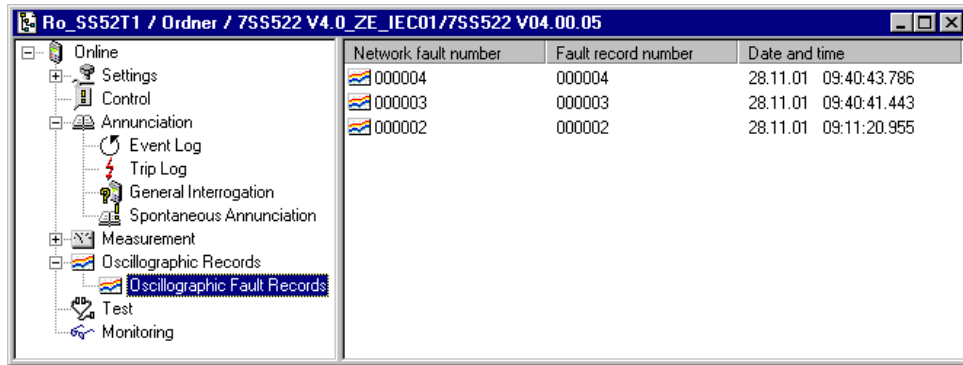

Figure 6-11 Reading out fault data in DIGSI – Example
- Click **Oscillographic Records** in the navigation window. The subdirectory of the Oscillographic Records now shows the item Oscillographic Fault Records in the navigation window (Figure 6-11, page 252). The list view in the right section of the window gives an overview of all available fault records. The fault records are displayed with the network fault number, a fault record number and date and time. The numbers for network fault and fault record are always identical for 7SS52 V4 and are numbered starting from 1 upwards.